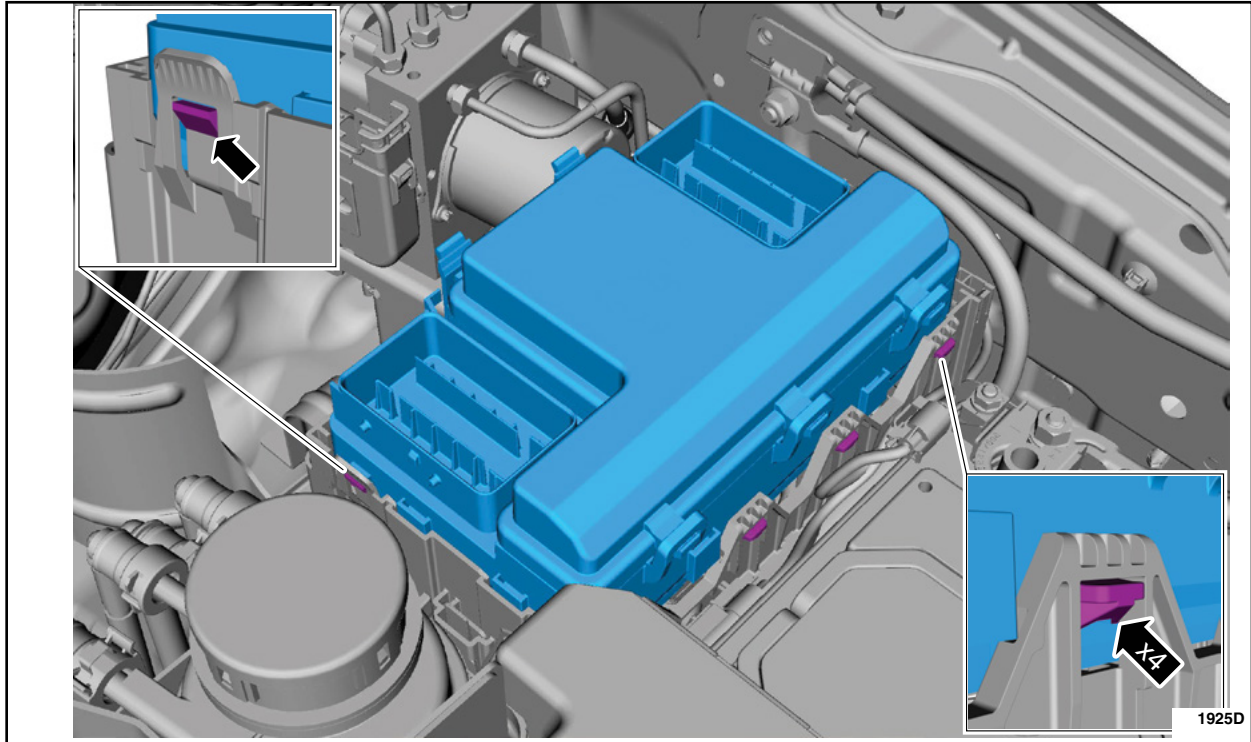

FIGURE 19
20. Install the battery junction box connector cover. See Figure 19.